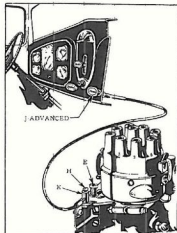
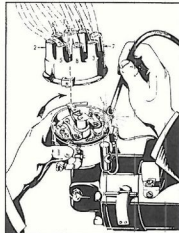
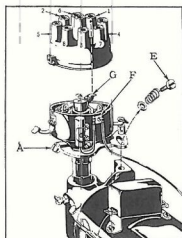

FIG. 5
FIG. 7
FIG. 8
4. Set spark control button (J) to advanced position. Fig. 5. Note that screw (E) is at extreme rear end of slot.
6. With screw (A) loose, Fig. 8, turn distributor head so that terminal (F) is toward the front of car. The eight high tension terminals will then be in the position shown in Fig. 8.
7. **Important**—Rotor point (G), Fig. 8, must be directly under No. 1 high tension terminal. If it is not, remove cap screw (E) at back of distributor, loosen screw (H), Figs. 5 and 6, and pull spark control wire back free from trunnion (K). Lift up the distributor assembly and turn the rotor so that point (G) is directly under No. 1 high tension terminal. Let the assembly down and replace screw (E), set spark control button and distributor arm in advanced positions and reconnect wire to trunnion. The distributor head and rotor should now be in positions as shown in Fig. 7.
tension wire to form a gap with the distributor housing. See Fig. 7. When the points open, there will be a spark across the gap. Lock the distributor in this position by tightening screw (A).